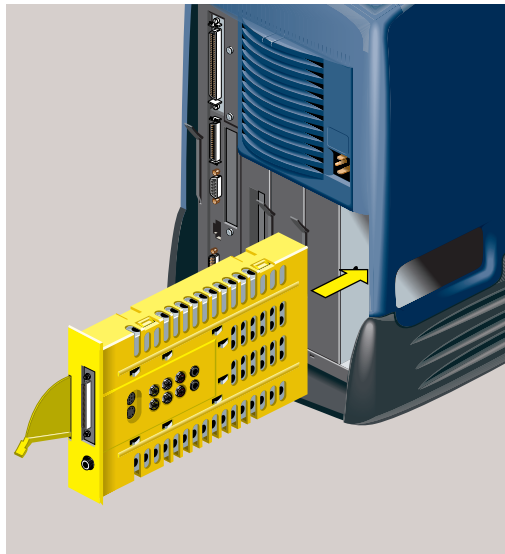

Figure 5-31 Installing the Replacement Audio-Visual Module
5. Slide the replacement audio-visual module into the chassis (Figure 5-31).